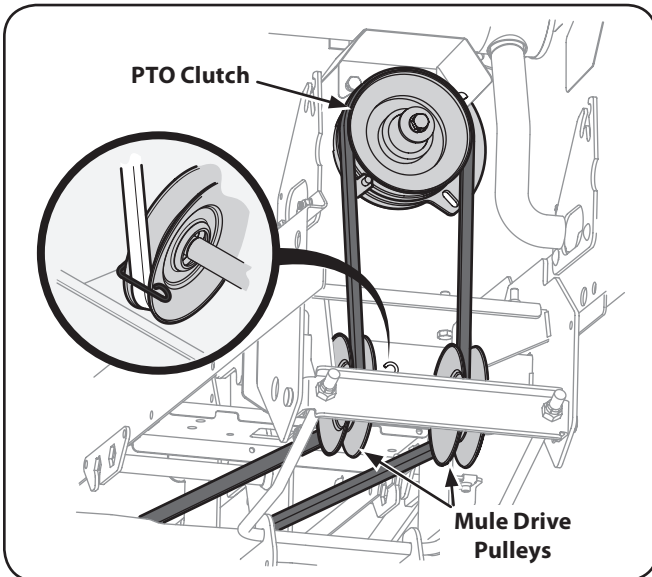

Figure 7-8
6. Feed the belt forward and remove from around the mule drive pulleys (See Fig. 7-8 on page 29) and the tractor’s PTO clutch pulley.
- Working from the front of the tractor, route the belt around the PTO clutch pulley, with the 'V' side of the belt seated in the pulley. Carefully feed the belt downward and route it in the two mule drive pulleys. See Fig. 7-8.